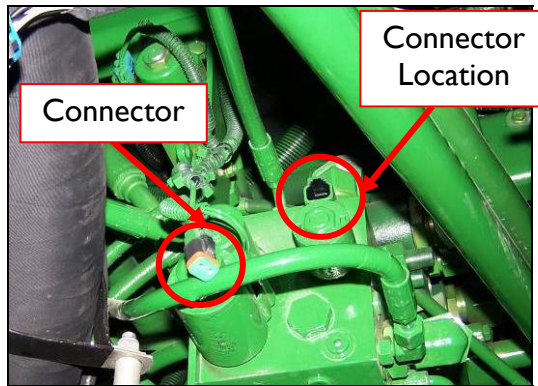

Figure 21: Load Sense Jam Valve Connector
8. Route the free end of C13 under the sprayer to the shuttle valve manifold. Unplug the load sense jam valve connector (Figure 21). Plug the connectors on C13 into the load sense jam valve connectors.